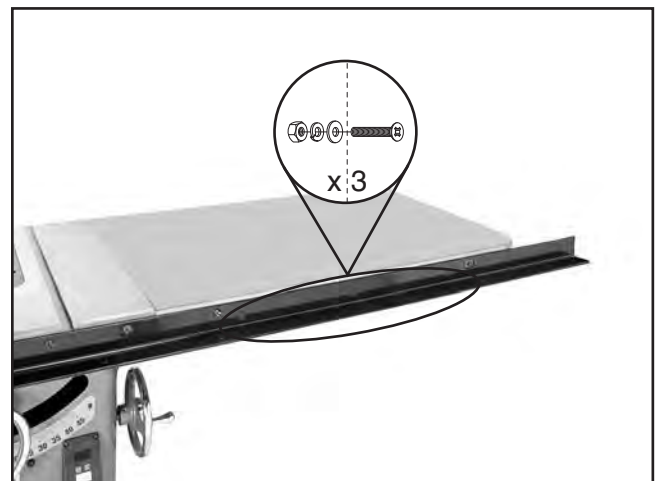

Figure 16. Front rail/table fastener locations.
5. While an assistant holds the extension table, fasten the 91½" front rail to the extension table with (3) M8-1.25 x 25 flat head screws, 8mm flat washers, 8mm lock washers, and M8-1.25 hex nuts (see **Figure 16**). Fingertighten for now.